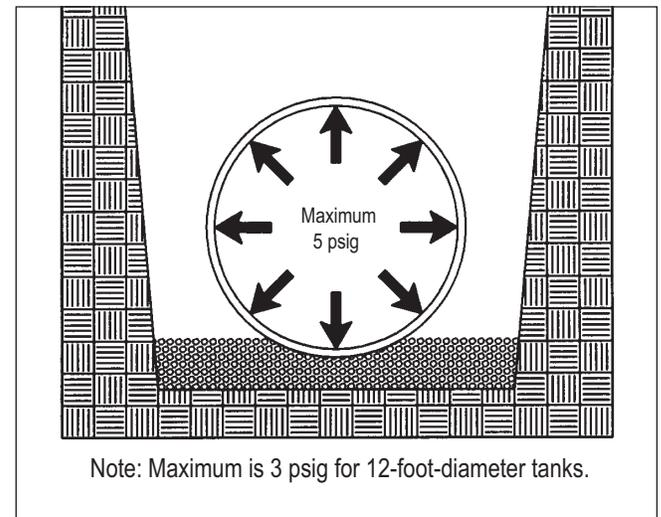

FIGURE 3-1
3.4.1. The air test pressure is 5 psig (3 psig for 12-foot-diameter tanks). See FIGURE 3-1.